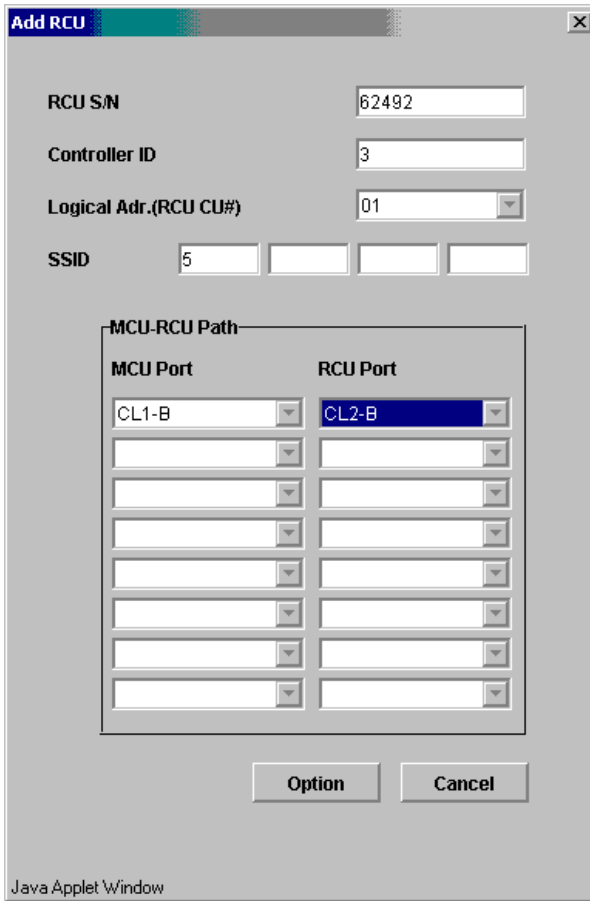
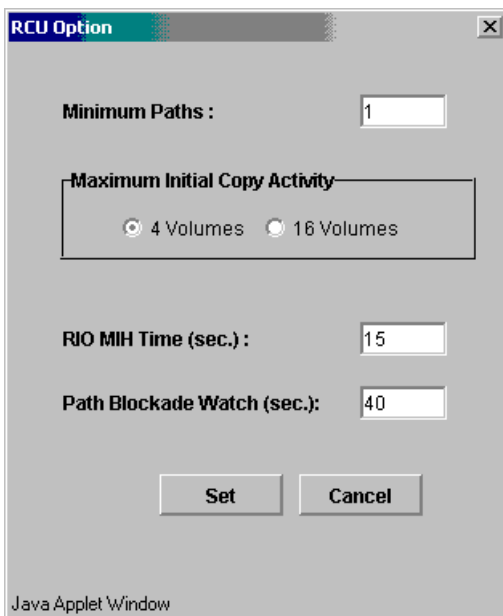

Figure 3.11 Adding the RCUs
Figure 3.12 Configuring the RCU Options
6. Add the desired RCU(s) to each MCU CU image, and set the desired RCU options using the Add RCU panel (see Figure 3.11) and RCU Option panel (see Figure 3.12) (see section 4.2.2 for instructions). Enter the following information on the Add RCU panel: